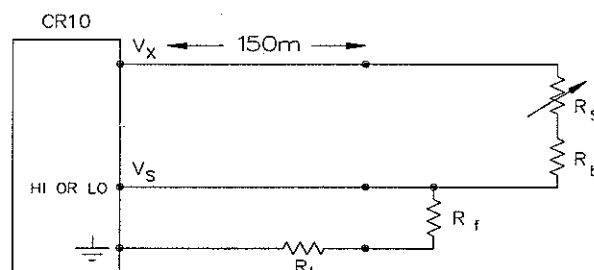

Figure 13-12 Incorrect Lead Wire Extension on 107 Temperature Sensor
6. Most Campbell Scientific sensors are configured with a small bridge resistor, R_f , (typically $1\text{k}\Omega$) to minimise the source resistance. If the lead length of a Campbell Scientific sensor is extended simply by joining extension lead on to the end of the existing cable, the effect of the lead resistance, R_l , on the signal must be considered. Figure 13-12 shows a Campbell Scientific Model 107 sensor with 150m of extension lead connected in this way. Normally the signal voltage is proportional to $R_f/(R_s+R_b+R_f)$, but when the cable is joined in this way, the signal is proportional to $(R_f+R_l)/(R_s+R_b+R_f+R_l)$. R_l is much smaller than the other terms in the denominator and can be discarded. The effect on the signal can be analysed by taking the ratio of the signal with extended leads, V_{sl} to the normal signal, V_s :